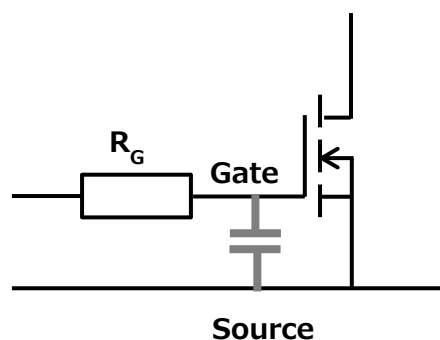

Figure 3.1 Adding a capacitor across the gate and source terminals
• **a capacitor between the gate and source terminals of the MOSFET in order to further reduce the C_{gd}/C_{gs} ratio. (Figure 3.1)**